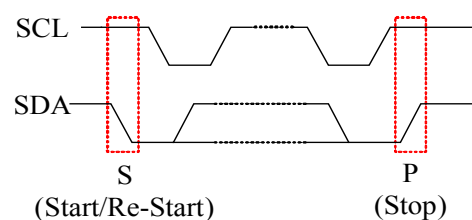

Figure 3-25 Start & Stop Timing
- 3) Start/Re-Start: SDA change from HIGH to LOW while SCL is HIGH, See Figure 3-25;
- 4) Stop: SDA change from LOW to HIGH while SCL is HIGH, see Figure 3-25;